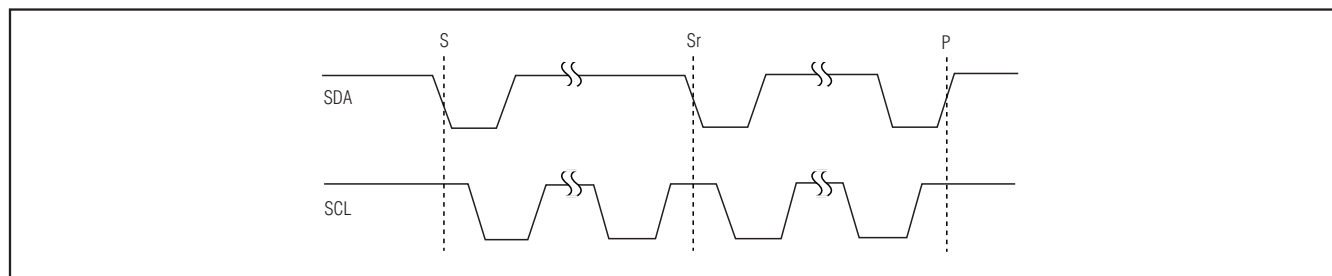

Figure 17. START and STOP Conditions
The master initiates a transmission with a START condition (S), which is a high-to-low transition on SDA while SCL is high. The master terminates a transmission with a STOP condition (P), which is a low-to-high transition on SDA while SCL is high (Figure 17). A repeated START condition (Sr) can be used in place of a STOP condition to leave the bus active and the interface transfer speed unchanged (see the *Fast/High-Speed Modes* section).